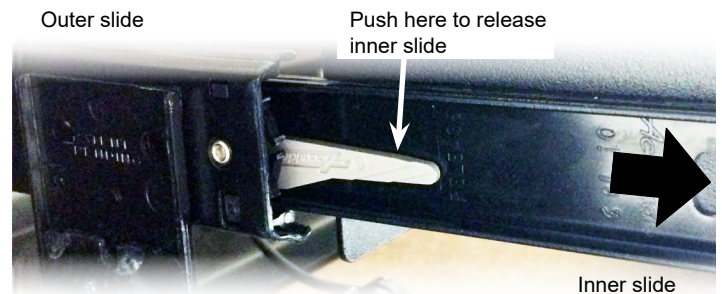

Figure 5
1. To flip, pull the tray out fully and locate the plastic lever on each slide. **Figure 5.**